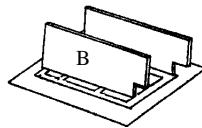
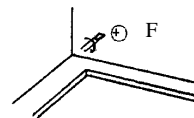

Figure 3
Figure 4
- Take two side-panels (B) and insert them into the two grooves on each side of the face frame and align each cam lock (Figure 3). When the cam screw on the face frame fit properly into the cam lock on the side panels, use a screw driver to turn the cam Clock 180° degrees clockwise to lock the cam lock (Figure 4).